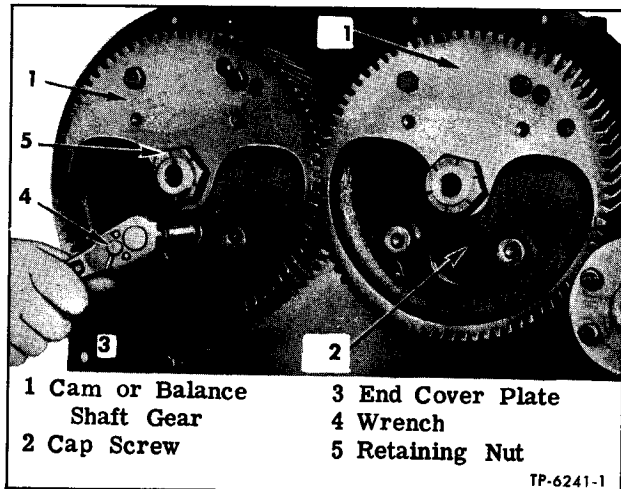

Figure 63—Cam and Balance Shaft Bearing Retaining Screw
of a socket wrench inserted through hole in the web of timing gears (fig. 63).
4. Secure balancer shaft rear bearing to engine block end plate with three lock washers and cap screws. Cap screws are accessible through the web of gear, (fig. 63).
2. Secure camshaft rear bearing to engine block end plate with three lock washers and cap screws. Cap screws are accessible through web of gear (fig. 63).